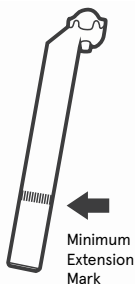

Fig. 4
**⚠ WARNING!** The seat post must be inserted at least up to the minimum insertion mark, or further so the insertion line is not visible (**Fig.4**). If not, the seat post may bend or break, possibly damaging the bicycle or causing an accident.